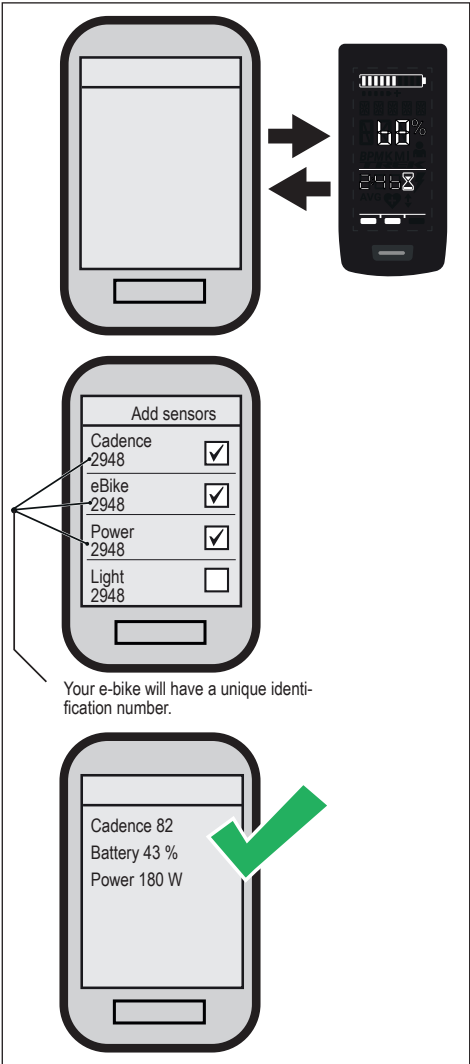

Fig. 8: Connection e-bike to bicycle computer
- Select at least the three shown sensors (see Fig. 8).